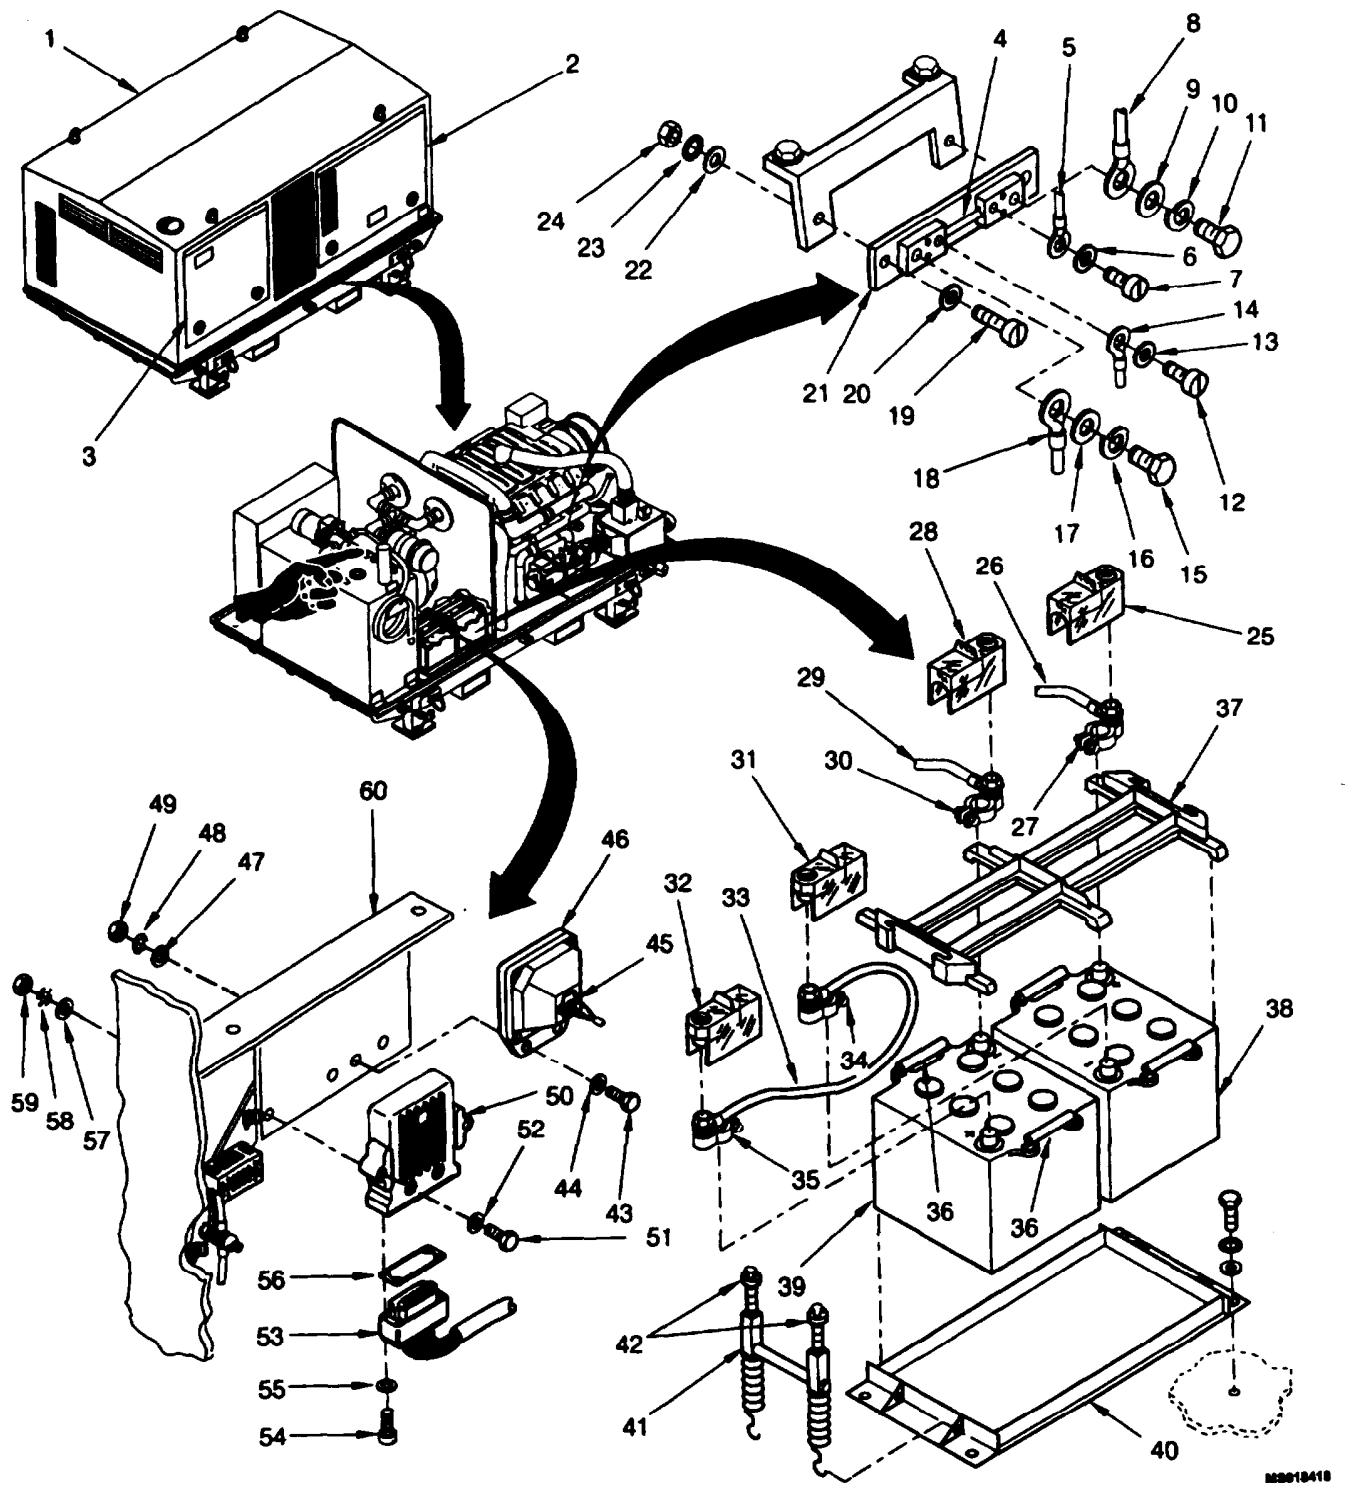

Figure 4-60. Shunt Resistor R11, EHG Regulator N7, Generator Regulator N6, Battery Set Maintenance.
1. Open flap (3, figure 4-60) on unit hood assembly (1).
2. Remove terminal cover cap (25).
3. Loosen nut (27) on terminal connector of negative terminal and remove terminal connector with battery cable (26).
4. Remove terminal cover cap (28).
5. Loosen nut (30) on terminal connector of positive terminal and remove terminal connector with battery cable (29).
6. Loosen nuts (42) on clamping device (41) and swing clamping device (41) aside.
7. Remove upper part (37) of battery set holder from batteries (38, 39).
9. Loosen nut (35) at terminal connector of positive terminal of battery (39) and nut (34) at terminal connector of negative terminal of battery (38) and remove battery cable (33).
10. Grasp batteries (38, 39) individually by lifting handles (36) and lift out of lower part (40) of battery set holder.